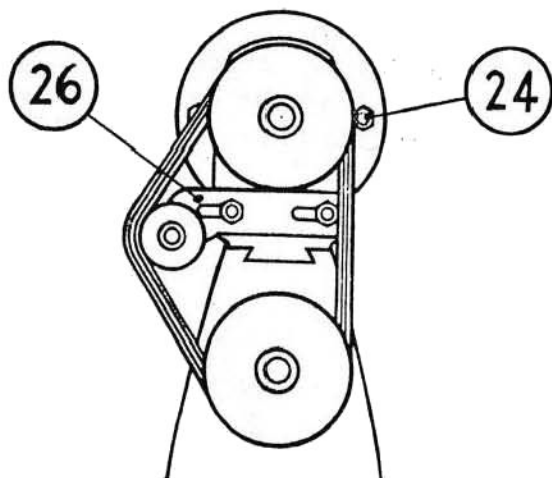

FIG. 6
spindle and then tighten the lock nut on to the above, To swivel the V.M.A. (23) into any desired position, slacken off the 2 nuts (24—fig. 6). After setting, re-tighten. The spindle speeds obtained are the same as for the horizontal spindle.
To set the S/S V.M.A. into any desired position slacken off the 2 nuts (24) fig. 6.